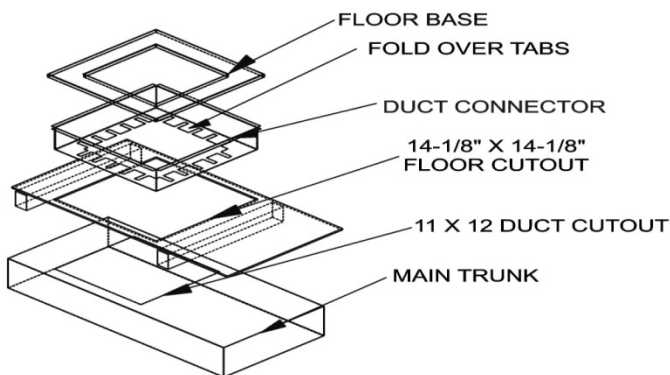

Figure 7: Duct Connector and Floor Base Installation
1. Attach the four (seal strip) foam tape gaskets provided with the duct connector alongside the perimeter of the duct opening to seal the duct connector where it attaches to the top of the duct as shown in Figures 7, 8 and 9.
3. Slit the corners of the duct connector that extend above the floor, and then bend the sides over onto the floor surface. Refer to Figures 7, 8 and 9.